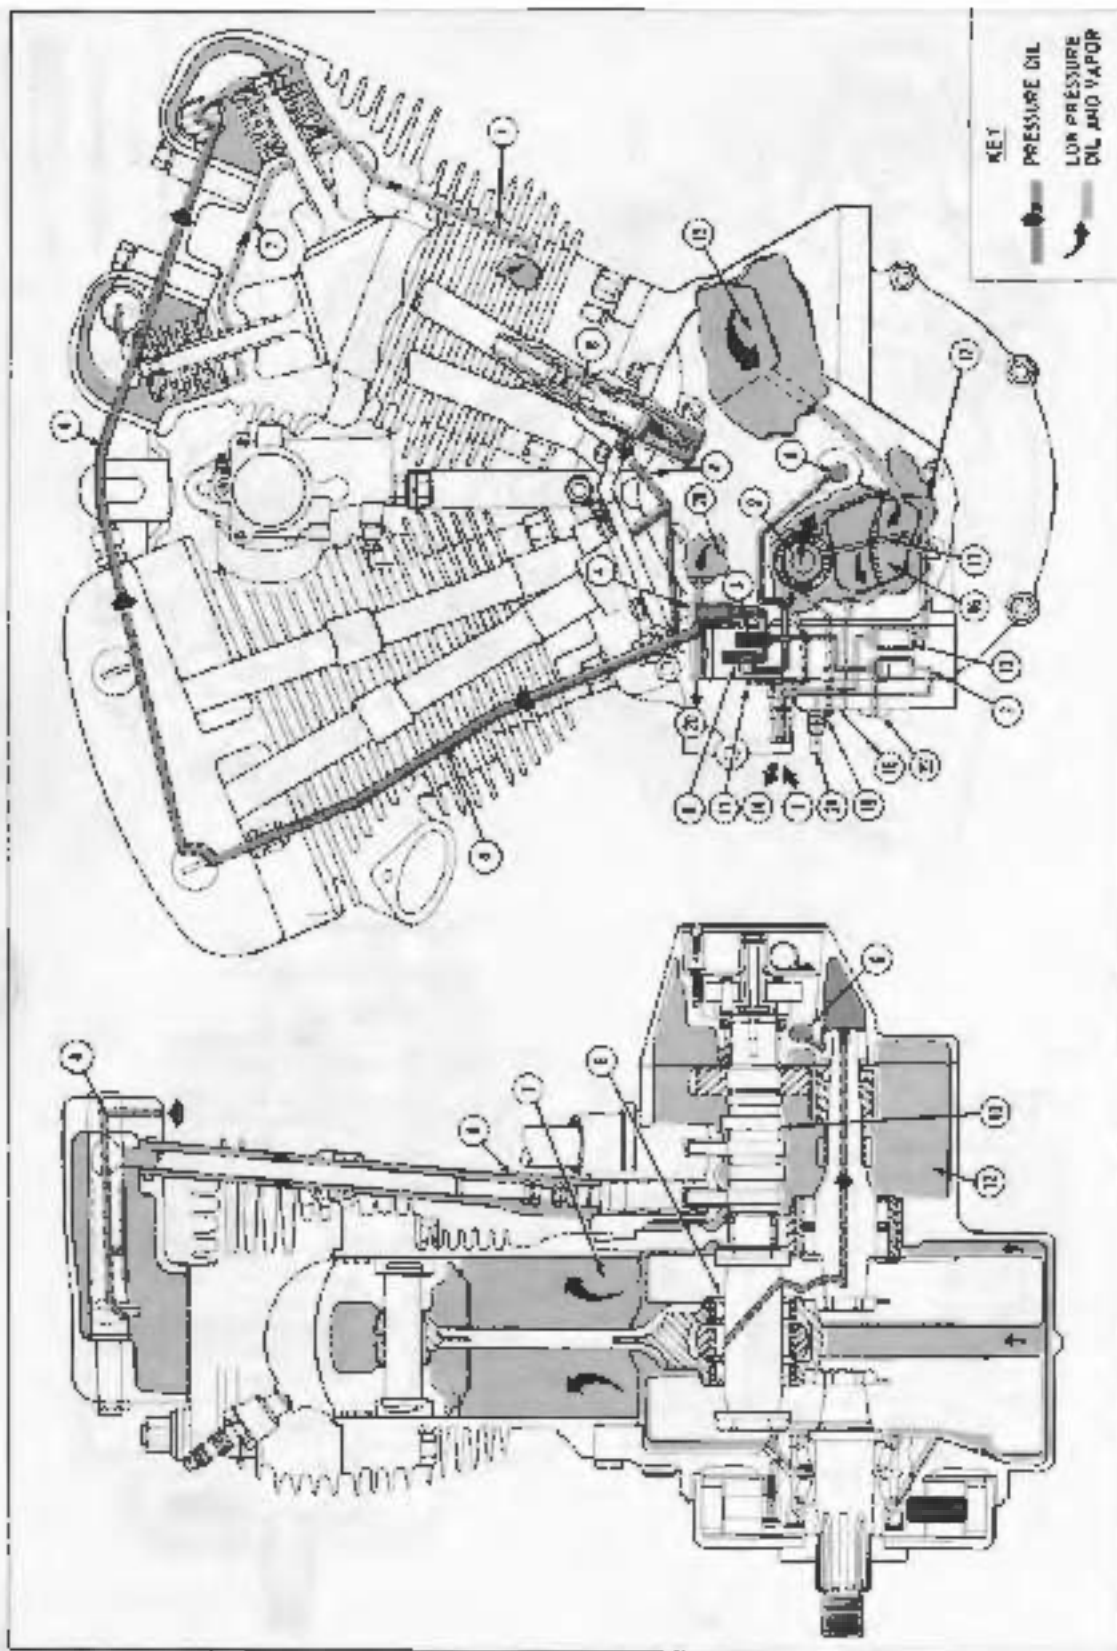

Figure 3-2A. FL/FLH/FX 1200 Lubrication System (1973 and Later)
**FL/FLH/FX ENGINE OILING AND BREATHER SYSTEM - 1973 AND LATER** (The following steps are called out on Figure 3-2A)
6. Oil is forced through pinion gear shaft to lubricate lower connecting rod bearings from which oil splashes to cylinder walls, piston, piston pin, and main bearings. During cold engine start-up, pressure regulating valve (5) lifts further to allow excess oil to return directly to oil tank.